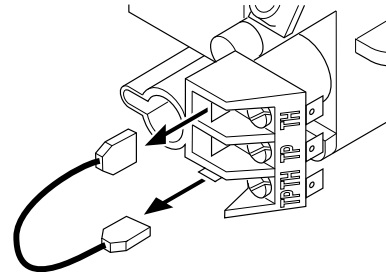

Figure 37 - Connecting Wall Switch to Control Cover
5. Remove wires from TH to TPTH on control valve (see Figure 37).